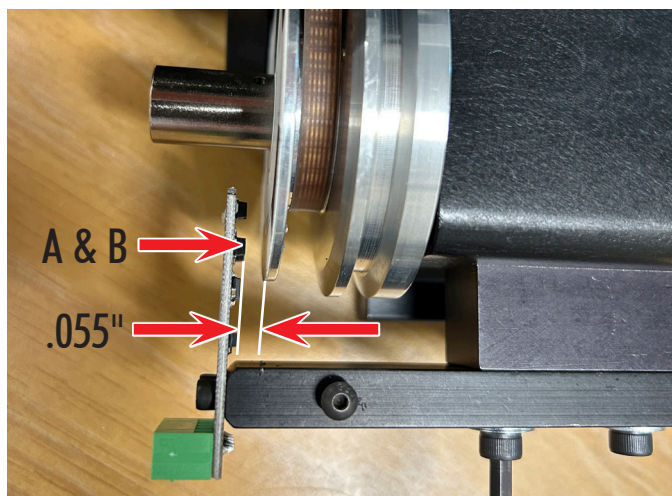
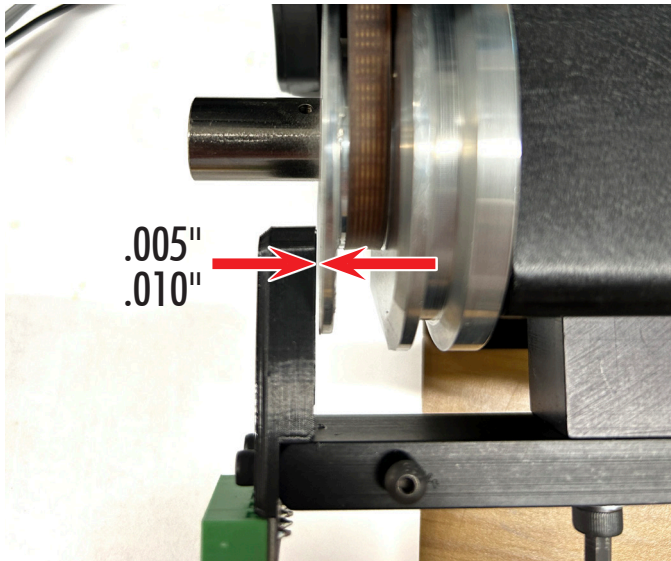

FIGURE 2—Showing .055” gap between the tach sticker and the A & B LEDs.
FIGURE 3—Showing the .005"-.010" gap between the MASSO encoder cover and the tach sticker.
2. The encoder gap is .055” from the tach sticker to the encoder A & B readers on the bottom of the encoder (see Figure 2), or .005”-.010” between the tach sticker and the bottom of the encoder cover (see Figure 3).
5. If you have the new MASSO injection-molded optical encoder cover, no further modifications are necessary (see Figure 5). If, however, you have an older 3D-printed optical encoder cover, you will have to trim .075" from the bottom of the 3D-printed cover (see Figure 6). This is to ensure the proper gap of .005"-.010" between the cover and the tach sticker shown in Figure 3.